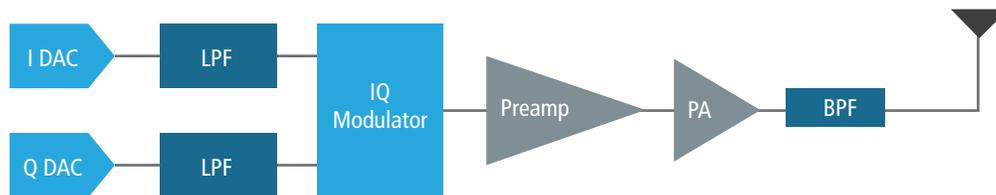
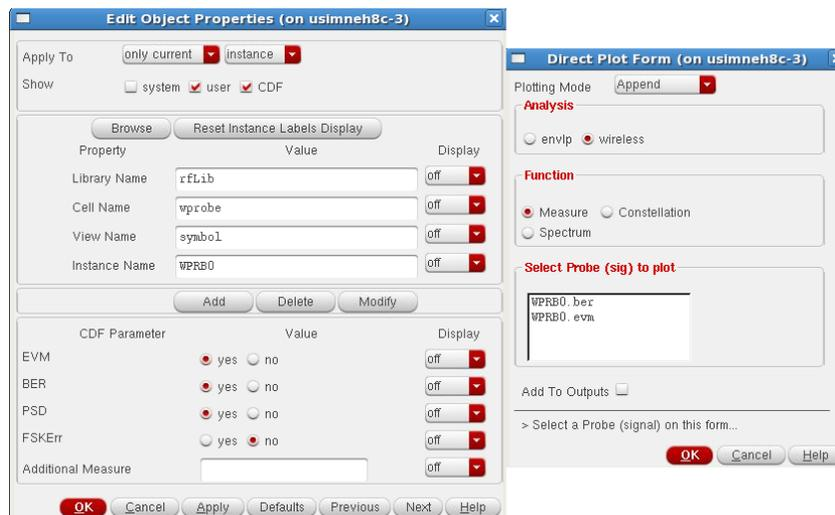

Figure 4: Generalized LTE wireless base station transmitter design
Figure 6: Screenshot of post-processing capabilities in the Virtuoso Analog Design Environment
- Modeling technology—The ability to automatically and accurately characterize the DUT, that is, the blocks of the design, can be very beneficial. For example, for an LTE wireless base station transmitter design, as diagrammed in Figure 4, imagine the advantages of being able to characterize the power amplifier, or the modulators, or both together.
The Spectre RF tool performs automated standard-specific post-processing at runtime. The designer can simply instantiate the wprobe (wireless probe) on the schematic at the outputs of interest, such as the output of the PA or the modulator of Figure 4. The EVM-related parameters (time steps, carrier frequencies, and stop times) are automatically propagated and calculated by the Spectre RF tool. Figure 6 shows the simple user interface for evaluating RFIC system-level specifications.